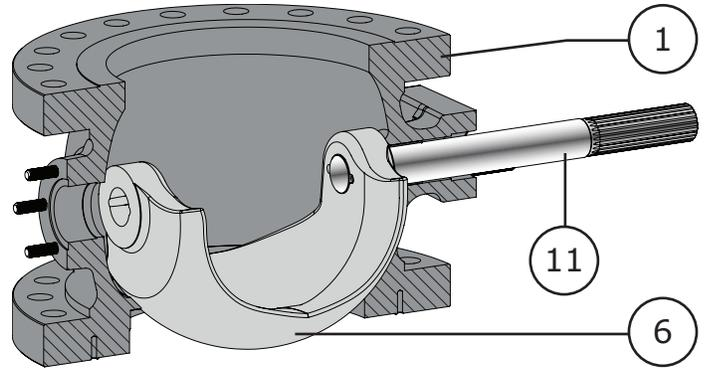

Figure 50 16 Inch Drive Shaft / Ball Installation Step 2
- 4 Continue to support the ball and align the shaft hole of the inboard ear with the inboard shaft bore of the valve body. Push the drive shaft (Key 11) in to the ear of the ball and rotate the drive shaft to align with any reference marks that were made prior to disassembly. Refer to Figure 50 and Pages 46 & 47 for proper ball/shaft orientation.